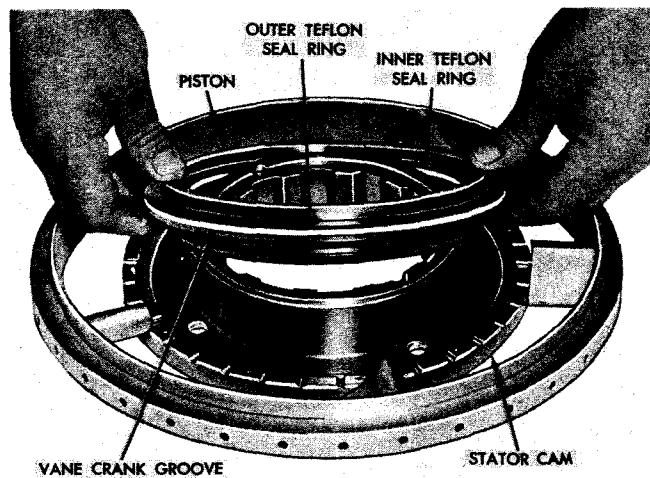
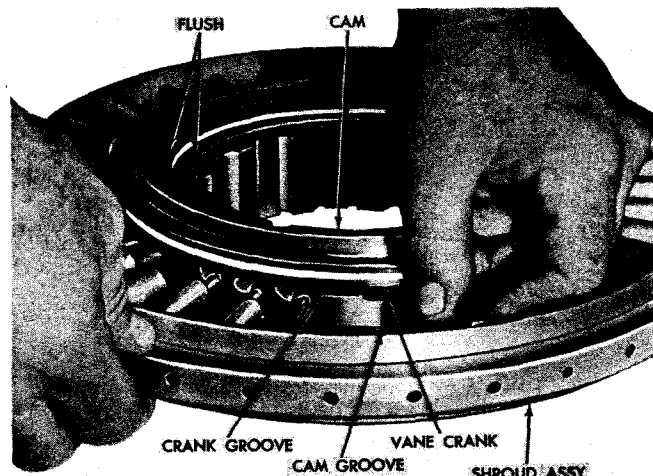

Fig. 6-6. Installing piston and sealrings onto stator cam
Fig. 6-7. Installing stator vanes into piston groove and shroud
(3) Install the piston with sealrings and expanders, vane crank groove downward, onto the stator cam (fig. 6-6). Install the piston so that the surface adjacent to the bore of the piston is flush with the front surface of the cam hub (fig. 6-7).
(4) Lift the shroud assembly up slightly to allow for easier installation of vane assemblies into the piston groove and pin holes in the shroud (fig. 6-7). Install 30 vane assemblies by first placing the outer end of the vane crank into the shroud and carefully twisting the vane to insert the crank in the piston groove. When the vane assemblies are all in place, push the piston down until it bottoms on the cam. The shroud assembly and vane cranks will fall into place in the cam grooves.
(5) Install piston housing 22 (A, foldout 7) and match its bolt holes with those in cam 24.